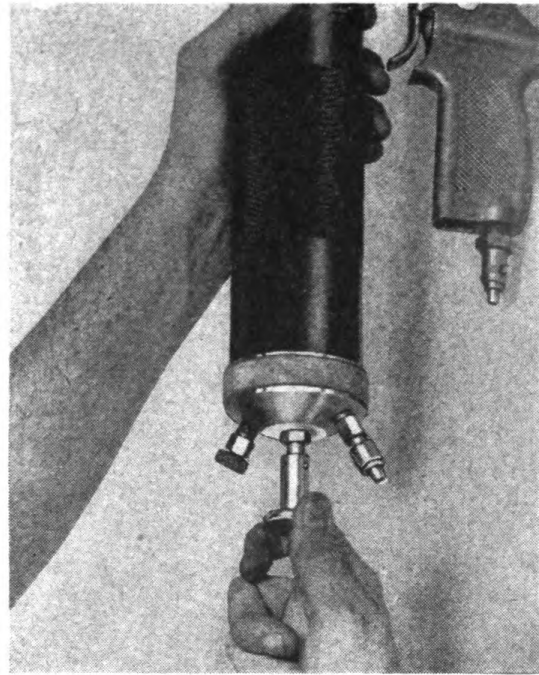

Figure 65
c. Unscrew follower rod from cross member of cylinder adapter by turning follower knob counterclockwise (See Figure 65).
g. Push follower rod back into cylinder and screw upper end into cross member of cylinder adapter by turning knob clockwise (See Figure 65).